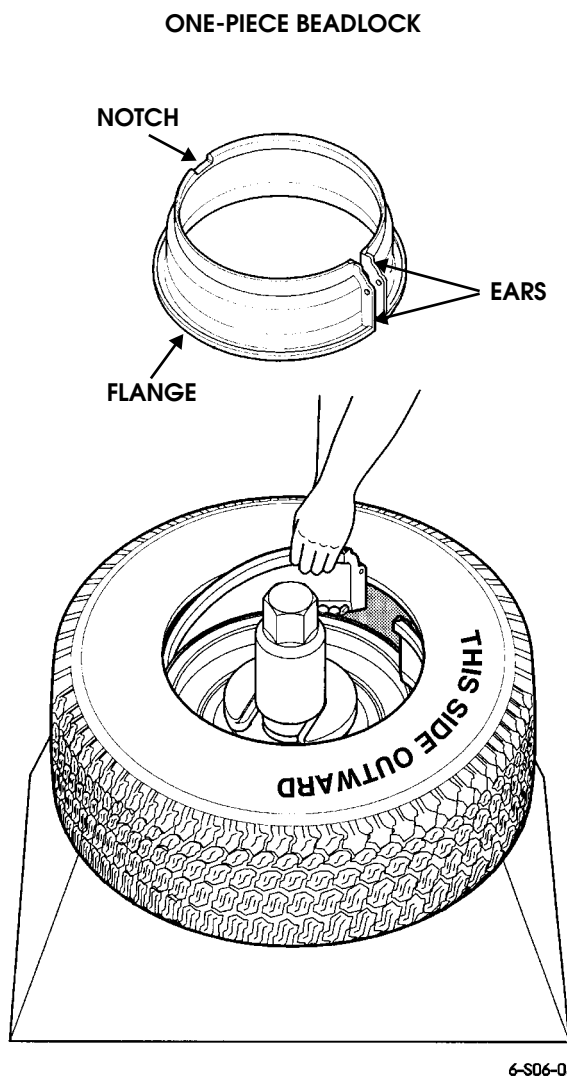

Figure 6-23: Beadlock Removal
- a. IF TIRE MACHINE IS CAPABLE, continue moving the disk upward until the outside tire bead is raised high enough to allow for beadlock removal (Figure 6-23).